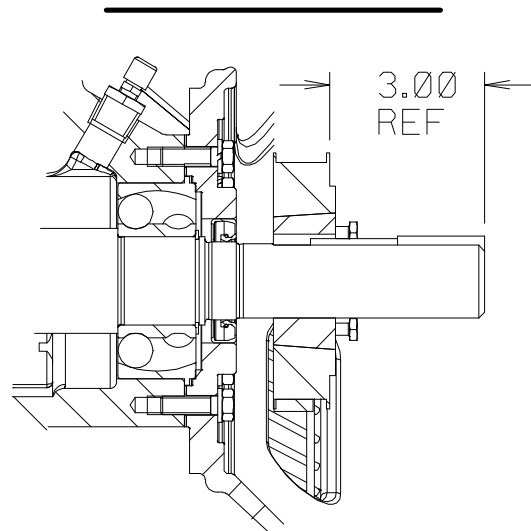

Figure 12. Drive Sprocket Positioning
Install the key (31, Figure 6) in the shaft keyway, making sure to leave room in the keyway for the drive key (23, Figure 6). Install the sprocket (24) and bushing (25) on the shaft to the dimension shown in Figure 12.
When properly installed to the dimension shown in Figure 12, the key (23, Figure 6) **will not** extend fully through the bushing. This is an acceptable fit for this application.